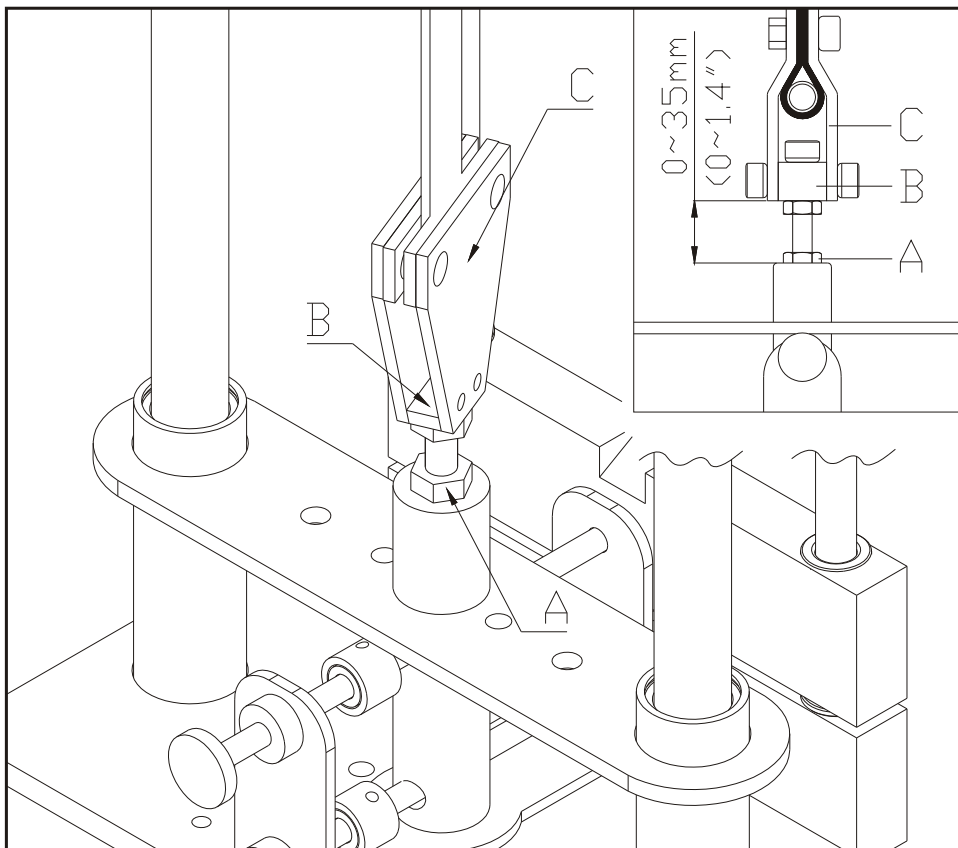

Fig.5
2. The gap between nut A and B must be within 35mm(1.4"). If the gap still exceeds the 35mm limit after the first step, please loosen the screws on C and adjust the belt to the proper length. Tighten the screws and follow the 1st step again. (See Fig. 5)